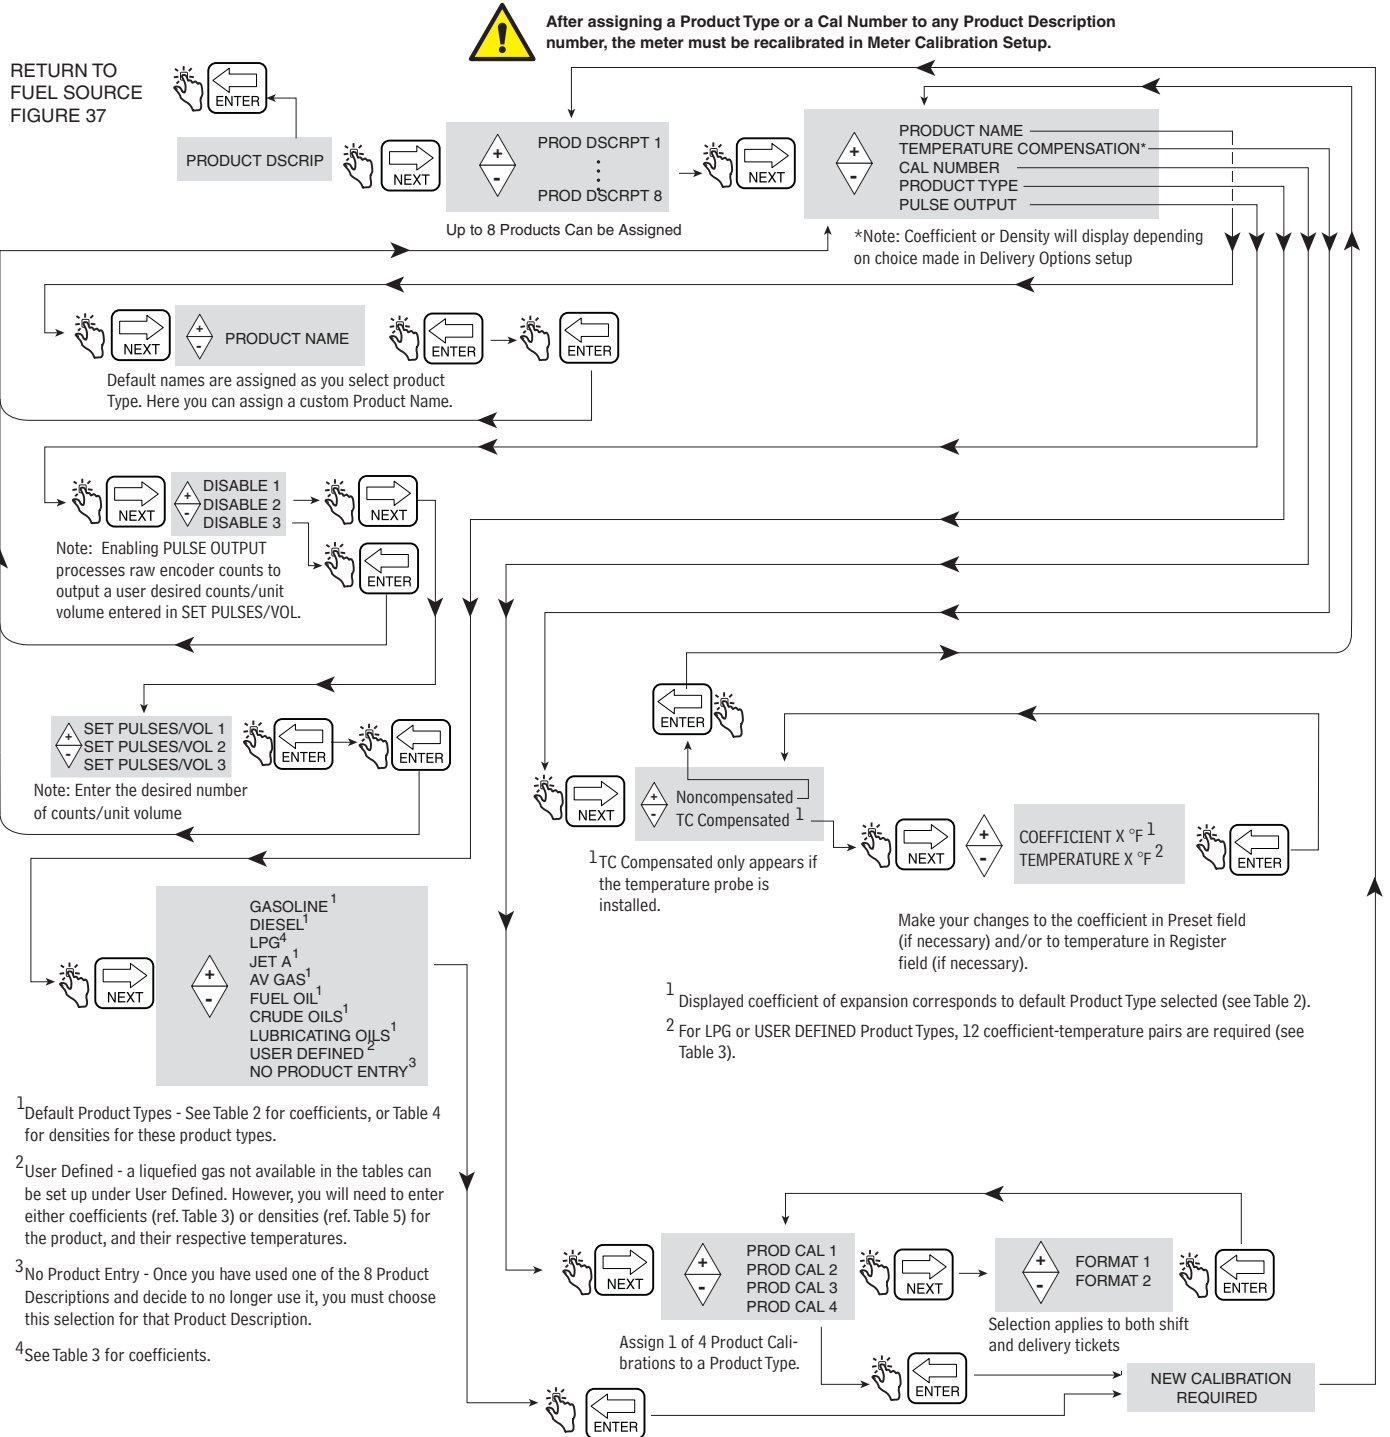

Figure 40. Product Description Setup
Figure 40 illustrates Product Description setup choices. You can assign up to eight products for the EMR4. Each product has a type, a name, and a temperature compensation factor. Thermal compensation for all products is calculated by either thermal coefficient or density, which you select in Delivery Options Setup (page 48).
Coefficient (C_{oe}) values may be modified to meet specific fuel/product specifications. The factor "t" is the measured fuel temperature. For example, use the procedure described in Figure 40 on page 39 to change the default coefficient of expansion for diesel from 0.00081 to 0.00083. To calculate temperature compensated volume the coefficient of expansion (C_{oe}) is now equal to 0.00083.
4. After completing the above 3 steps, change the default density value for up to eight specific products as described in Figure 40, Product Description Setup.